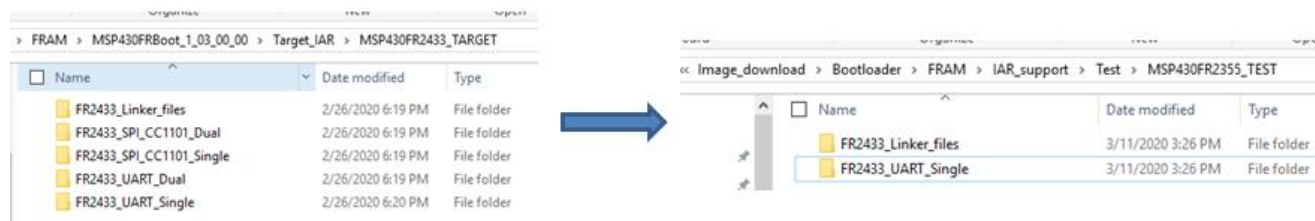

Figure 6-1. Copy UART single project and the linker folder to other folder
2. Copy the "FR2344_UART_Single" project and the linker folder named "FR2433_Linker_files" into another folder, as shown in Figure 6-1. For MSP430FR2xx4xx family devices, choose the MSP430FR2433 target demo projects as a template. For MSP430FR5xx6xx family devices, choose the MSP430FR5969 target demo projects.